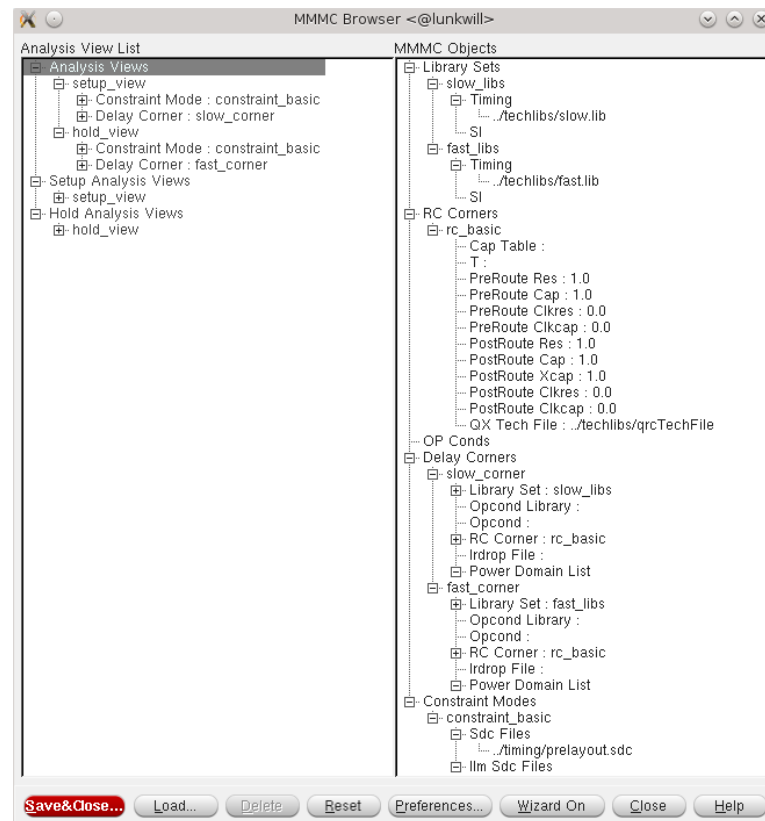

Figure 4.2: MMMC Browser window.
6. At this point, if you expand the tree items in the “MMMC Browser” window, the configuration should look like in Figure 4.2.